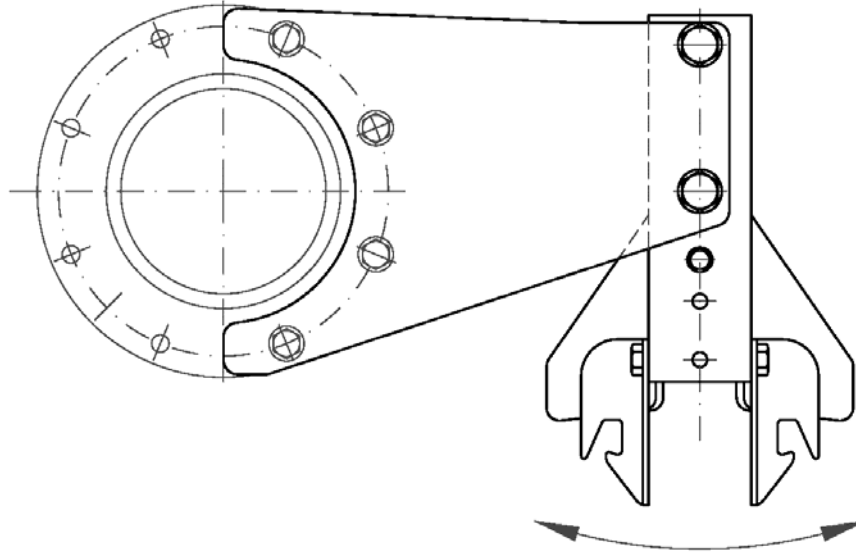

Figure 15 Regulation of earthing switch position
- 7.6.1 Mount the earthing switch on the base. The corresponding number is shown on the assembly drawing. Mount the mechanism so that the last meter of the earthing switch tube is horizontally (Figure 15; 16). The earthing switch is mounted with four M16 bolts. The M16 bolts are mounted on the earthing switch mechanism for shipment purposes. Unscrew and use for mounting. Tighten the fixing bolts.
- 7.6.4 Check the length of the blade before the switch makes the vertical movement. (Figure 15). The top of the male contact must be 5-7 mm below the nylon block. If necessary adjust the position of the male contact by using the M16 fixing bolts. After adjustment tighten the bolts.